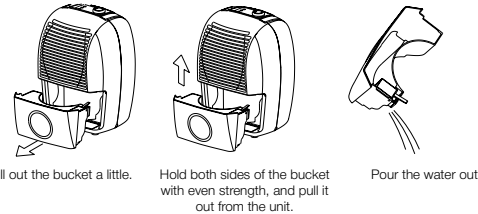
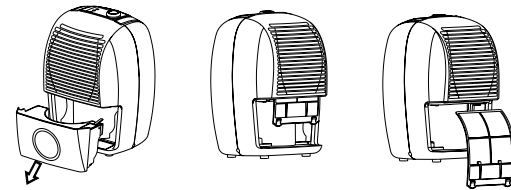

Fig. 4.
Fig. 7.
- Pull the water bucket out as shown in Fig.4. Grasp the lower side of the filter and pull it downward, see Fig.7.